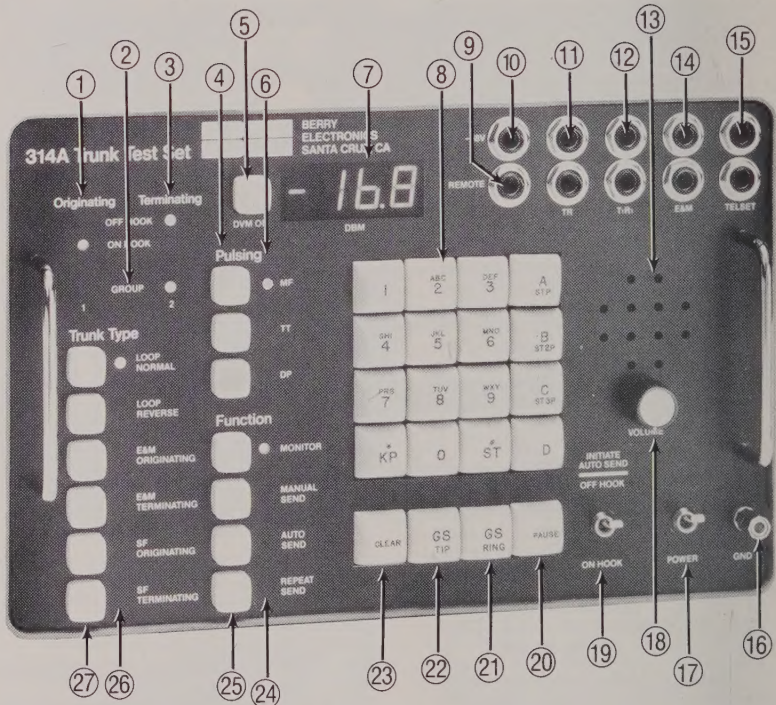

Figure 2. Model 314A Front Panel Callouts
2.16 The front panel layout, switches, jacks, controls and digital display readout are shown in Figure 2. The circled callout numbers in the figure correspond with the circled callout numbers in the following text:
- ① Originating OFF-HOOK/ON-HOOK LED's indicate the supervision status of the Originating office.
- ② GROUP 1/2 LED's indicate which number is being sent in two-stage pulsing.
- ③ Terminating OFF-HOOK/ON-HOOK LED's indicate the supervision status of the Terminating office.
- ④ Pulsing Key group: